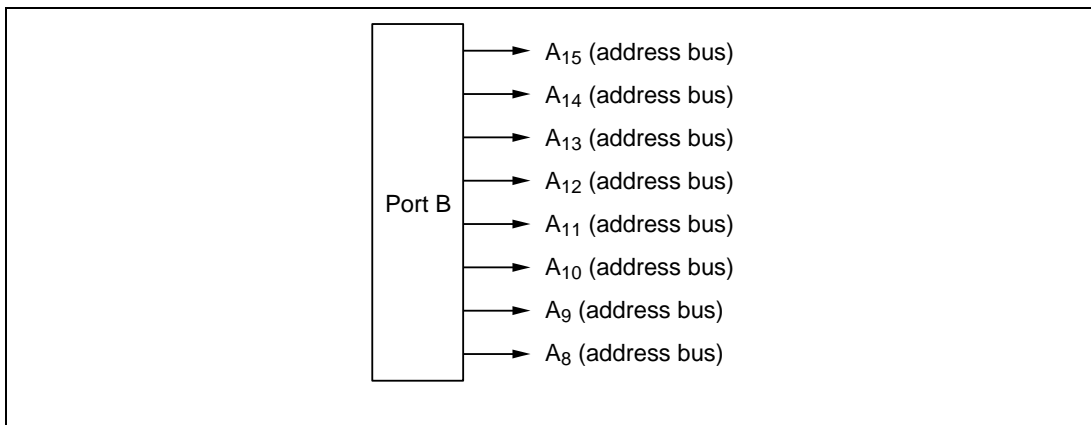

Figure 10-75 Pin Functions in Modes 1, 3, 5, and 6
(1) Pin Functions in Modes 1, 3, 5, and 6: Port B is used for address output (A_{15} to A_8). The PBDDR settings are ignored. Figure 10-75 shows the pin functions in modes 1, 3, 5, and 6.